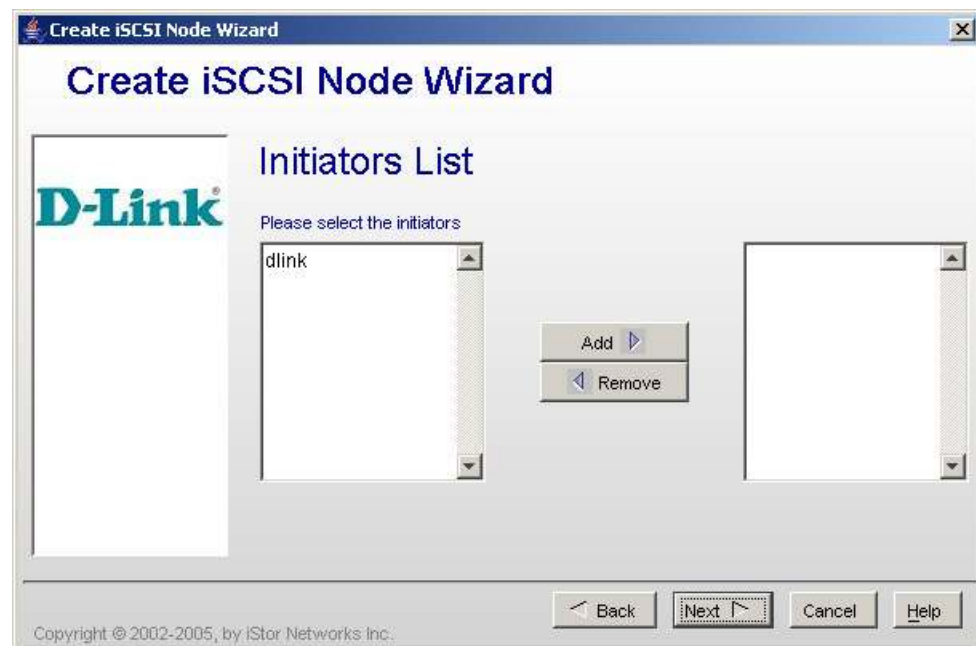

Figure 5-31. Create iSCSI Node Wizard – Initiator List Screen
7. In the left column, click the IP address of the network portal(s) allowed for this target node and click **Add** to move the IP address to the right list. To select additional IP addresses, repeat this step. (To remove an IP address from the right list, click it and click **Remove** to return the address to the left list.) When you finish, click **Next**. The Initiators List screen appears (see Figure 5-31).